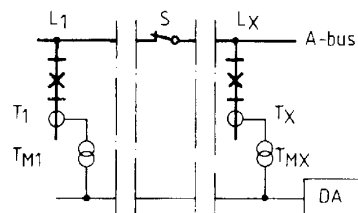

Fig. 1 Single-bus. one zone with bus section switch normally closed
The most simple and reliable installation is the single bus one-zone arrangement (Fig. 1). In this case it can also be permitted that a bus section switch (S) is opened at certain times to split the bus in two parts. As long as there is no internal fault the REB 101 differential relay remains stable. This applies even when the two bus sections are working asynchronously, e.g. at different frequencies; however, when an internal fault occurs, both sections will always be tripped simultaneously. When the bus selection switch is open, the two sections must then be supplied radially, i.e. internal fault currents to one section must not pass through to the other section.